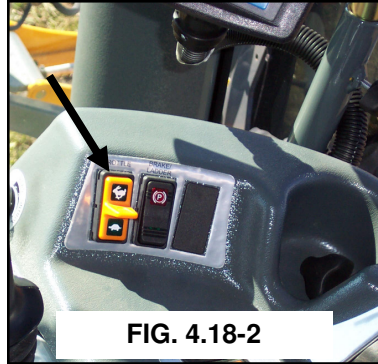

FIG. 4.18-2
2. Increase the engine one bump to gain RPM of 1800 with the throttle switch (fig. 4.18-2). More RPM will be gained as you move the hydrostatic lever forward.